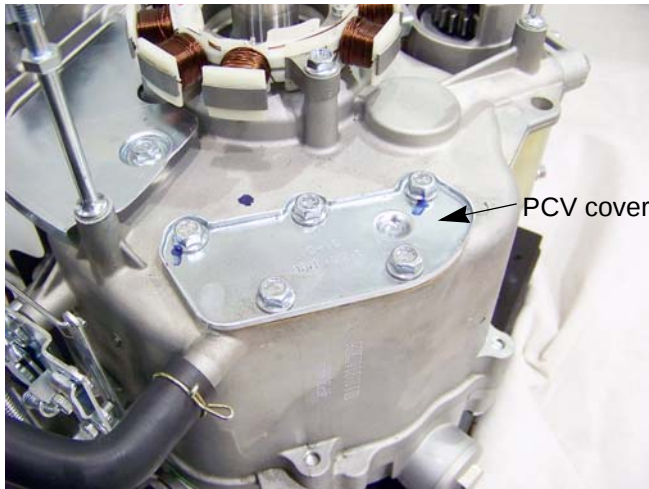

Figure 5.7
2. Remove the five screws that hold the PCV chamber cover to the engine block using a 10mm wrench. See Figure 5.7.